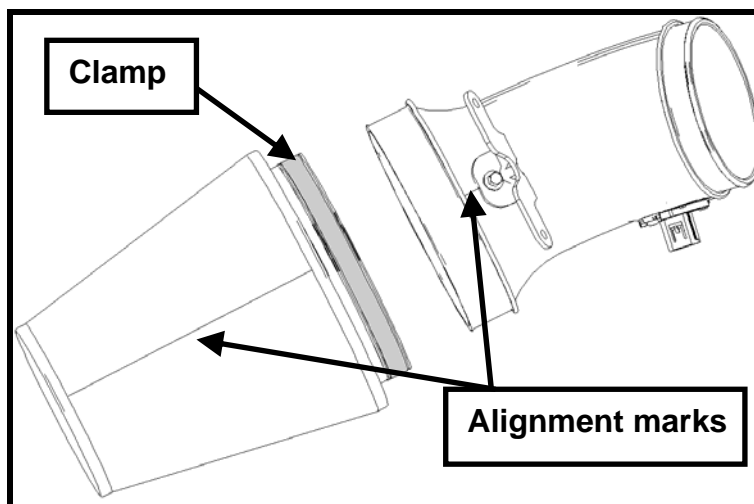

Fig. 6
**STEP 3:** Install the air filter (R07060131) to the clean air tube and torque the worm drive clamp to 3 Nm (26 lb in). **NOTE:** Align the metal strip on the air filter with the alignment mark on the clean air tube (See Fig. 6).